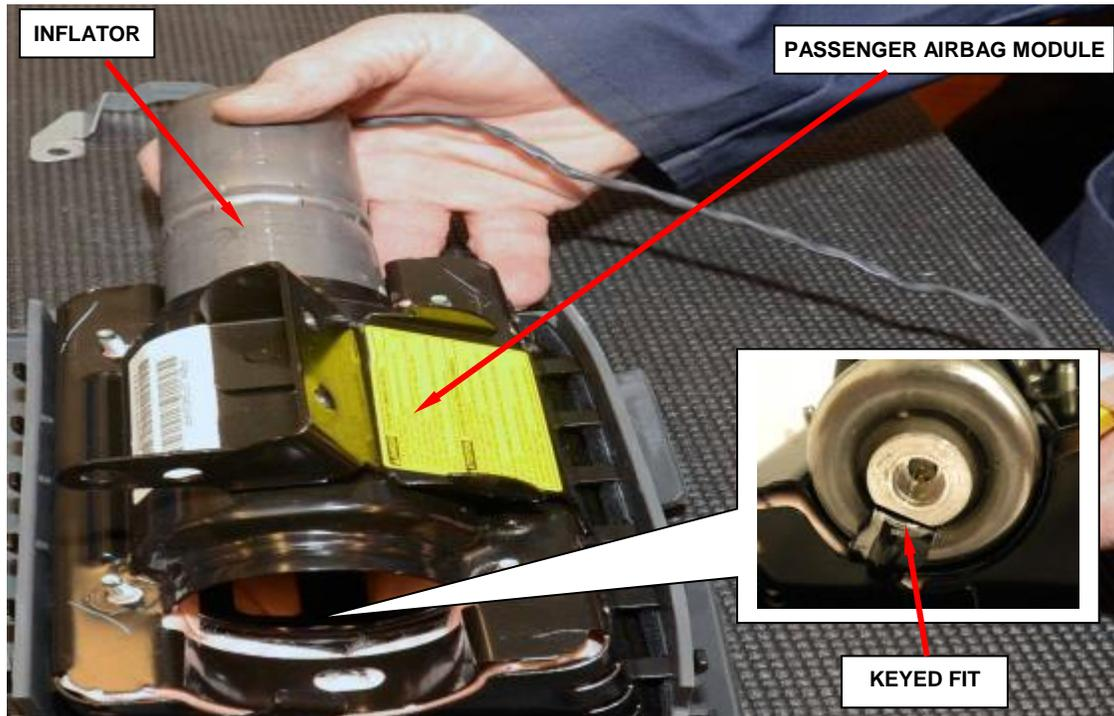

Figure 22 – Passenger Airbag Inflator to Housing
- f. Slide the inflator out of the passenger airbag module (Figure 22).
NOTE: The inflator’s key MUST line up with the housing’s key (Figure 22).
m. Slide the **new** inflator into the passenger airbag module (Figure 22).
NOTE: The inflator is keyed to fit into the housing (Figure 22).